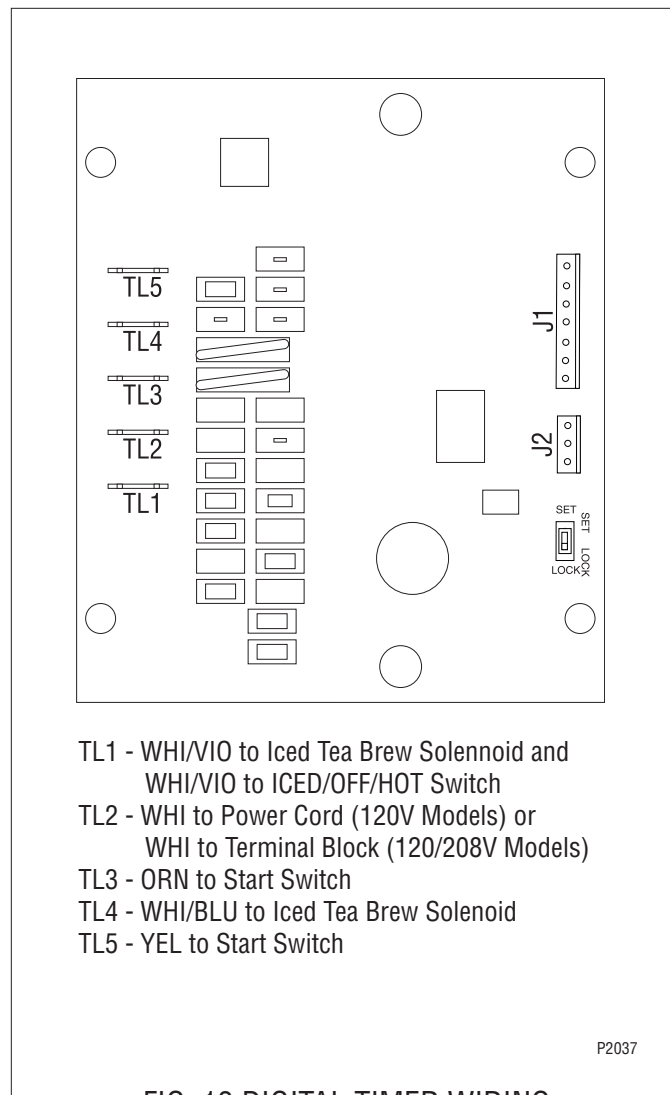

FIG. 13 DIGITAL TIMER WIRING
4. Refer to Fig. 13 when reconnecting the wires.
4. Attach all wires to the replacement timer board prior to installation to the component mounting bracket. Refer to FIG. 13 when reconnecting the wires.